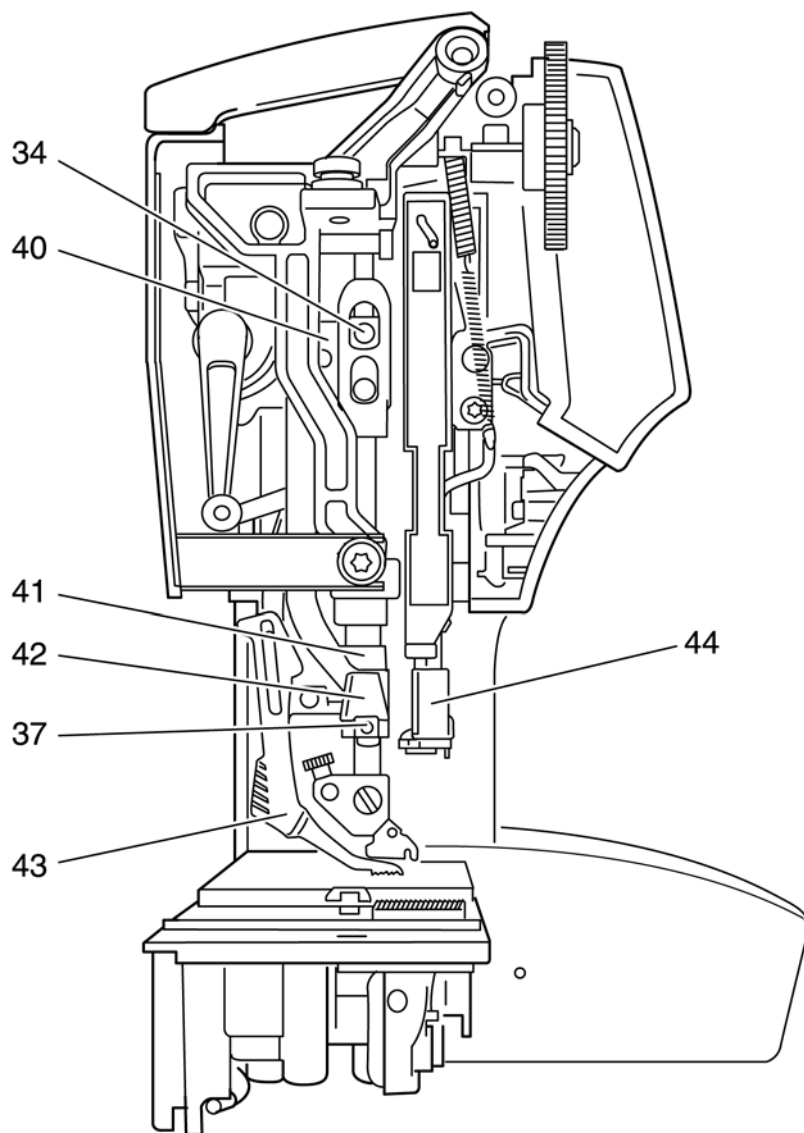

Fig. 25
In its highest working position the top feed foot must be 2 mm higher than the lower edge of the zigzag foot sole (fig. 25).
- Loosen screws 34 and 37 (fig. 25).